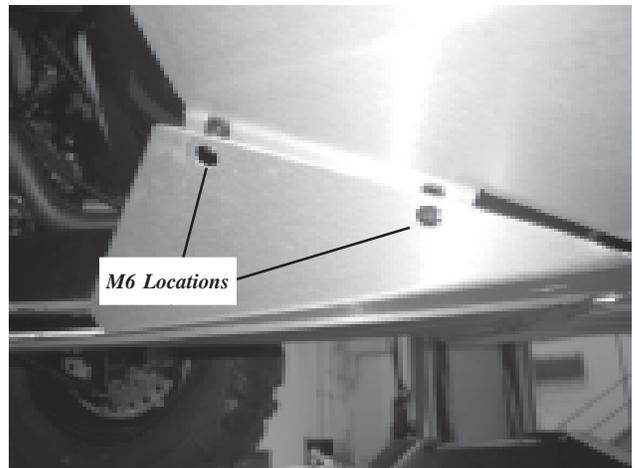

Figure 10
14. Install M6 bolts (B3) in locations shown to fasten front skid plate to side skid plate. **(Figure 10)**